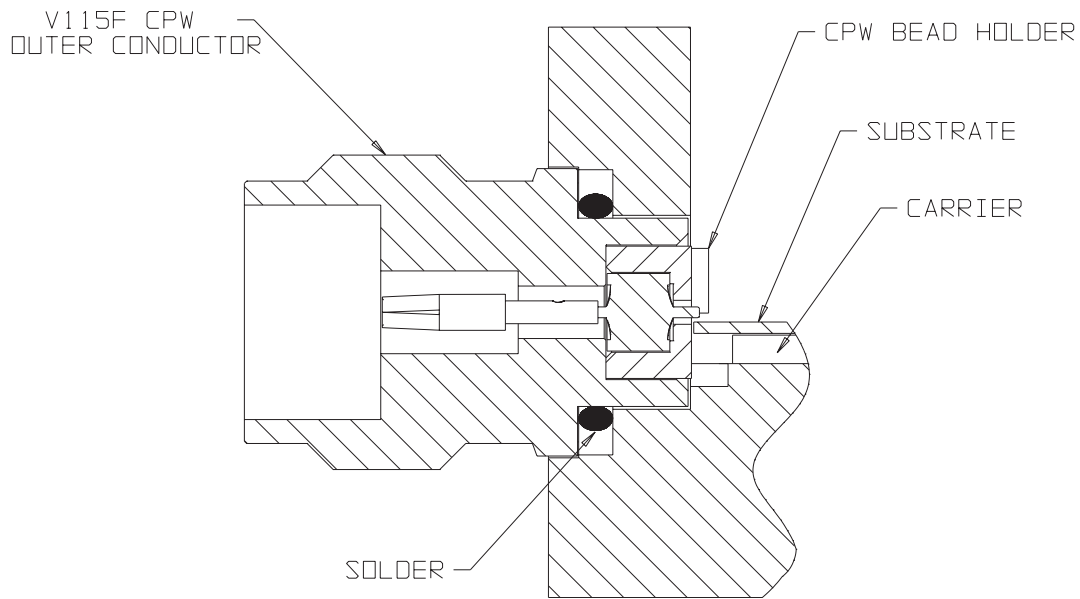

Figure 3. V115FCPW Assembly
- Place and push the connector into the housing; ensure that the ground lip is positioned as shown in Figure 3.